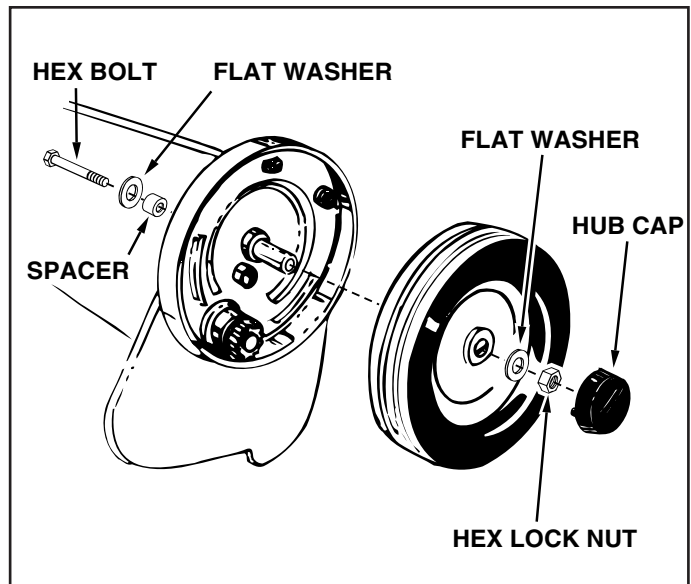

FIGURE 25
- Every two years, remove the wheels and clean the gears found inside the wheel housing. After cleaning, lubricate with an even coat of light grease. To remove the wheel, pop off the hub cap using a screwdriver and remove the lock nut and flat washer. See figure 25.